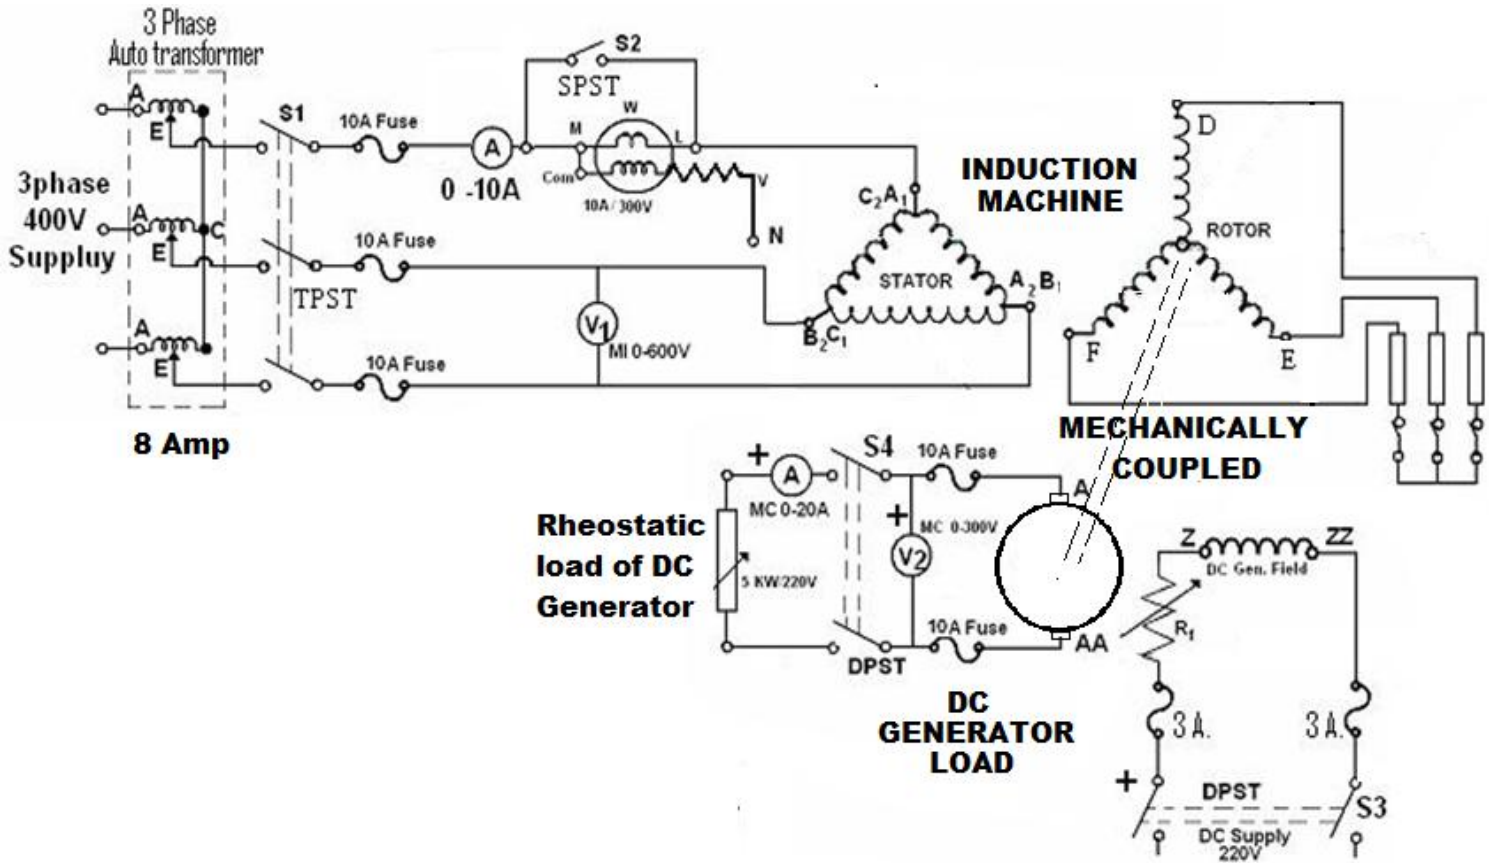

Figure 1. Circuit diagram for studies on Induction Motor
1. Choose the appropriate ranges of the meters and connect the induction motor (IM) only as shown in Figure 1. Keep S_1 , S_3 and S_4 open **but S_2 closed. Ensure that the auto transformer is at zero output position.**